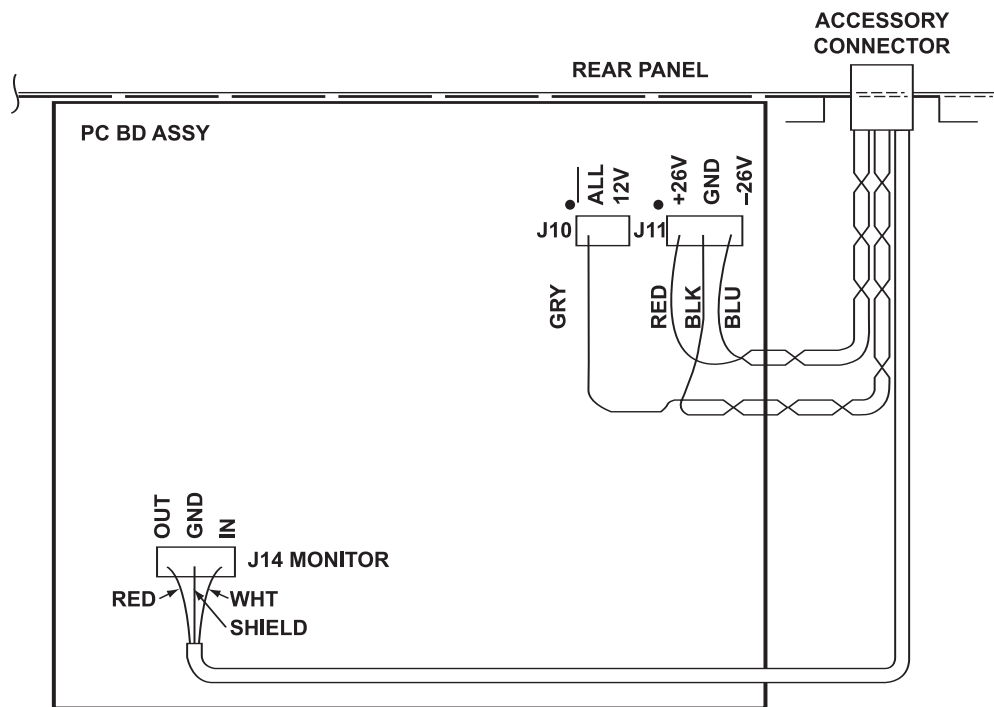

Figure 6 - Wiring Diagram, Installation of Accessory Connector in MCP35A
An Accessory connector (included with the MCPB) must be installed in the MCP35A prior to interconnecting these two units. Refer to Figure 6 and the following instructions.
4. Push the female connectors on the accessory cable onto the terminal pins of J10, J11, and J14, as shown in Figure 6.